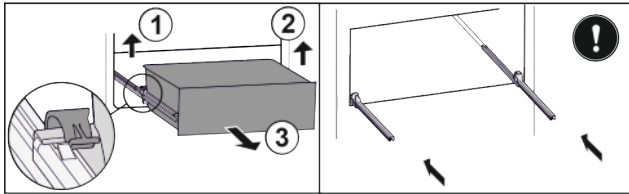

Fig. 33*
- ▶ Detach the drawer on the left Fig. 33 (1).*
- ▶ Detach on the right Fig. 33 (2).*
- ▶ Take off to the front Fig. 33 (3).*